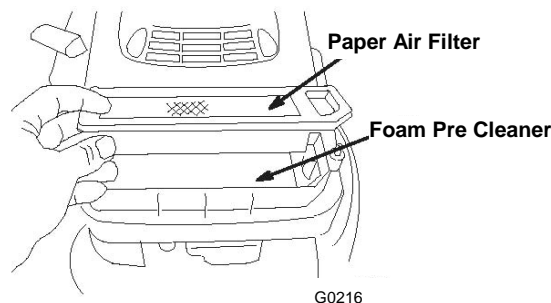

FIGURE 13
- e) Remove the paper air filter and discard it as required (Figure 13).
- f) Remove the foam pre-cleaner and wash it with a mild detergent and water, then blot it dry (Figure 13).